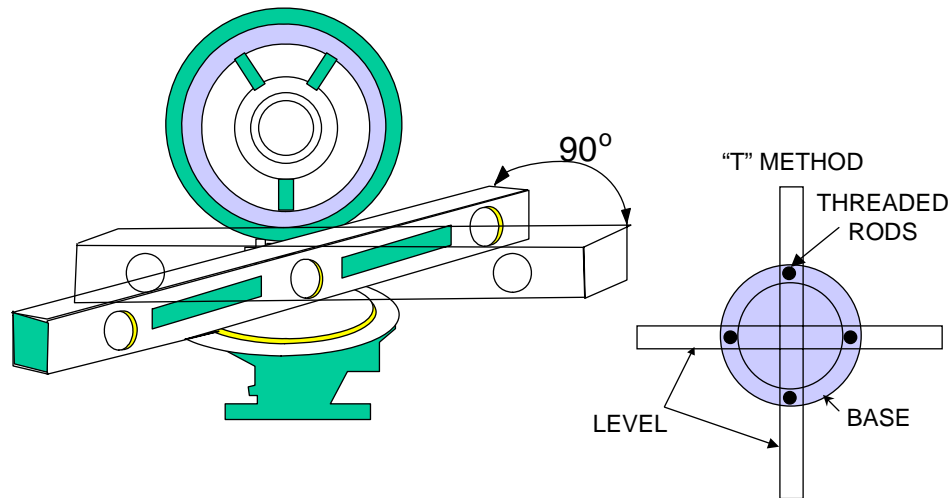

Figure 3-14
- d. With lens open, place a level on the flange of the lantern base. **The bubble level on the lantern shall not be used.** Use the "T" method shown in Figure 3-14 so that adjustment of one leveling bolt won't affect the other adjustment
- f. Move the level ninety (90) degrees from your first position and readjust.